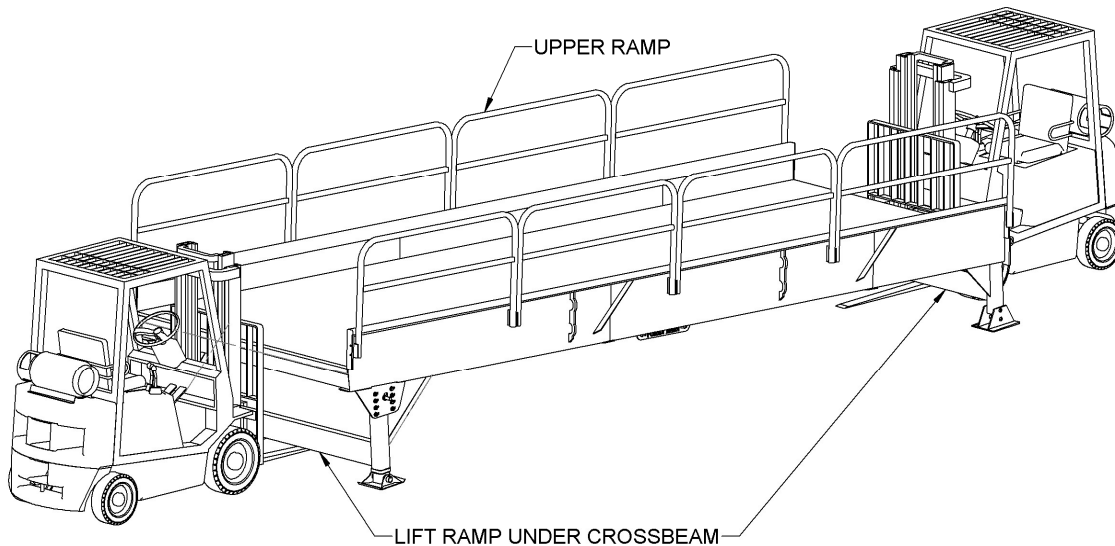

Figure 3b: Moving the Upper Ramp with 2 Forklifts
- b. **TWO FORKLIFTS:** Position a forklift at the front and rear ends of the upper ramp as shown in Figure 3b. Place forks underneath the cross beam between the adjustable legs to lift the front of the ramp and between the mid-span legs on the end of the ramp. Carefully move the ramp to the desired location.